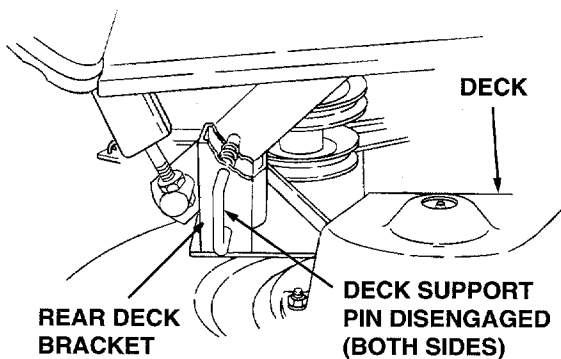

Figure 41
6. Pull the deck support pins outward, turn downward and release so both spring-loaded pins are held in the disengaged position against the outer surface of the deck brackets (Refer to Figure 41).